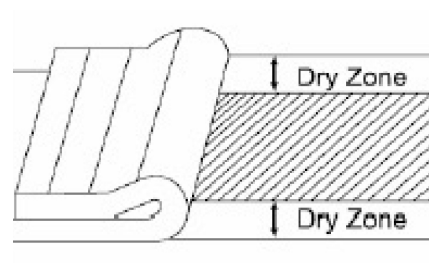

Fig.9
3. Apply the specified adhesive and spread with the specified trowel. (See Fig. 9)